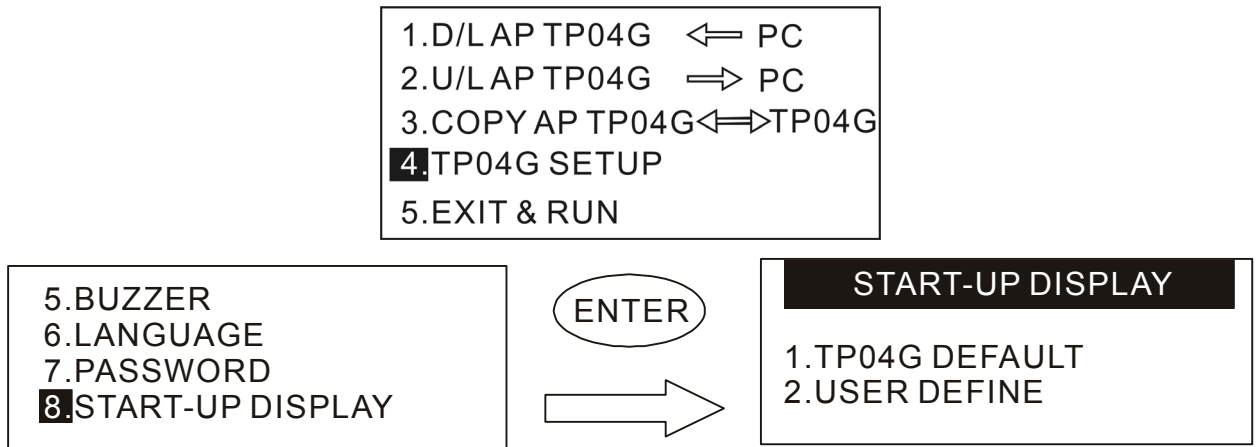

Figure 3-5
Step 7. Finally, in the system main menu of TP04G, choose “4.TP04G SETUP” > “8.START-UP DISPLAY” > “2.USER DEFINE” to complete the editing of Boot Page as shown as the following Figure 3-5.